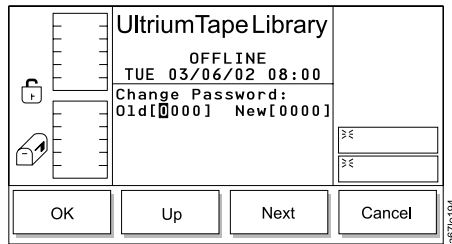

Figure 245. Set/Change Password Dialog
8. Press the button below the **Change** softkey. The Set/Change Password Dialog displays (see Figure 245 on page 184).